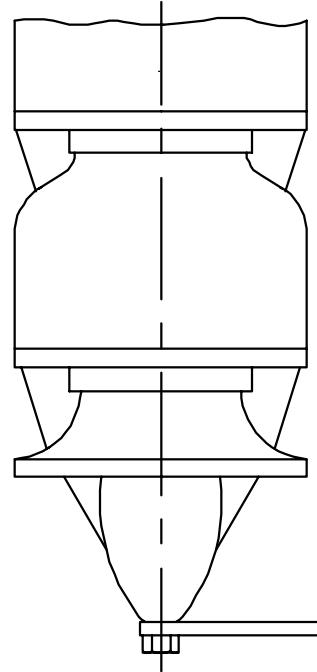

Fig. 2.1 Lock Down Bar
5. Check bottom of pump. Sleeve-type mechanical seal units shipped completely assembled are supplied with shaft locking plate which must be removed and replaced with pipe plug (plug is required only on grease, packed suction bearings) prior to installation. Refer to Fig. 2.1.